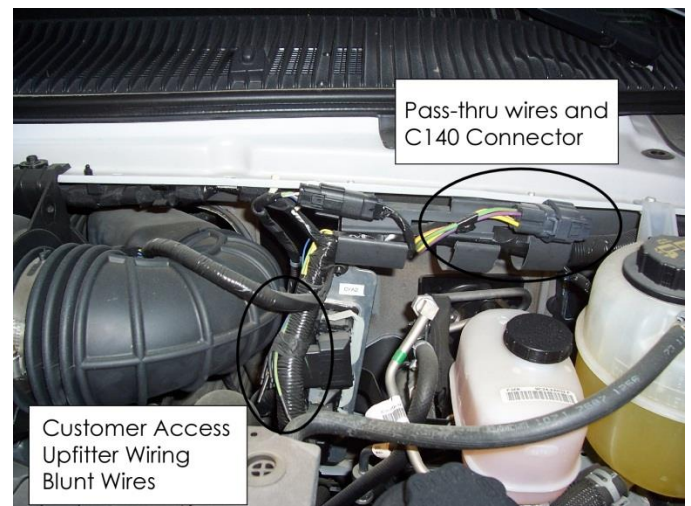

Figure 42. Under hood wiring
1. Looking underneath the vehicle hood, locate the customer access upfitter wiring between the engine air induction tube and the brake master cylinder. Remove some of the plastic wiring harness tape to reveal the blunt-cut wires. Also, locate the Pass-thru wires and connector(C140) near the vehicle cowl. See Figure 42.